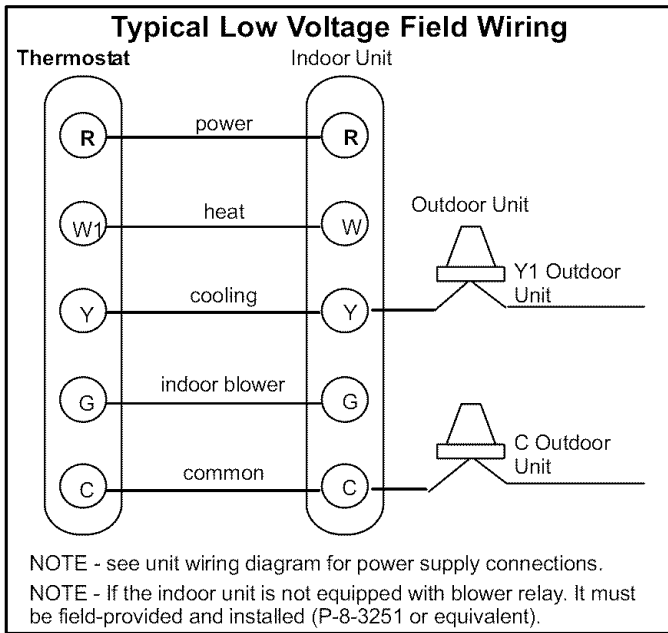

Figure 3
4. Install low voltage wiring from outdoor to indoor unit and from thermostat to indoor unit. See figure 3.